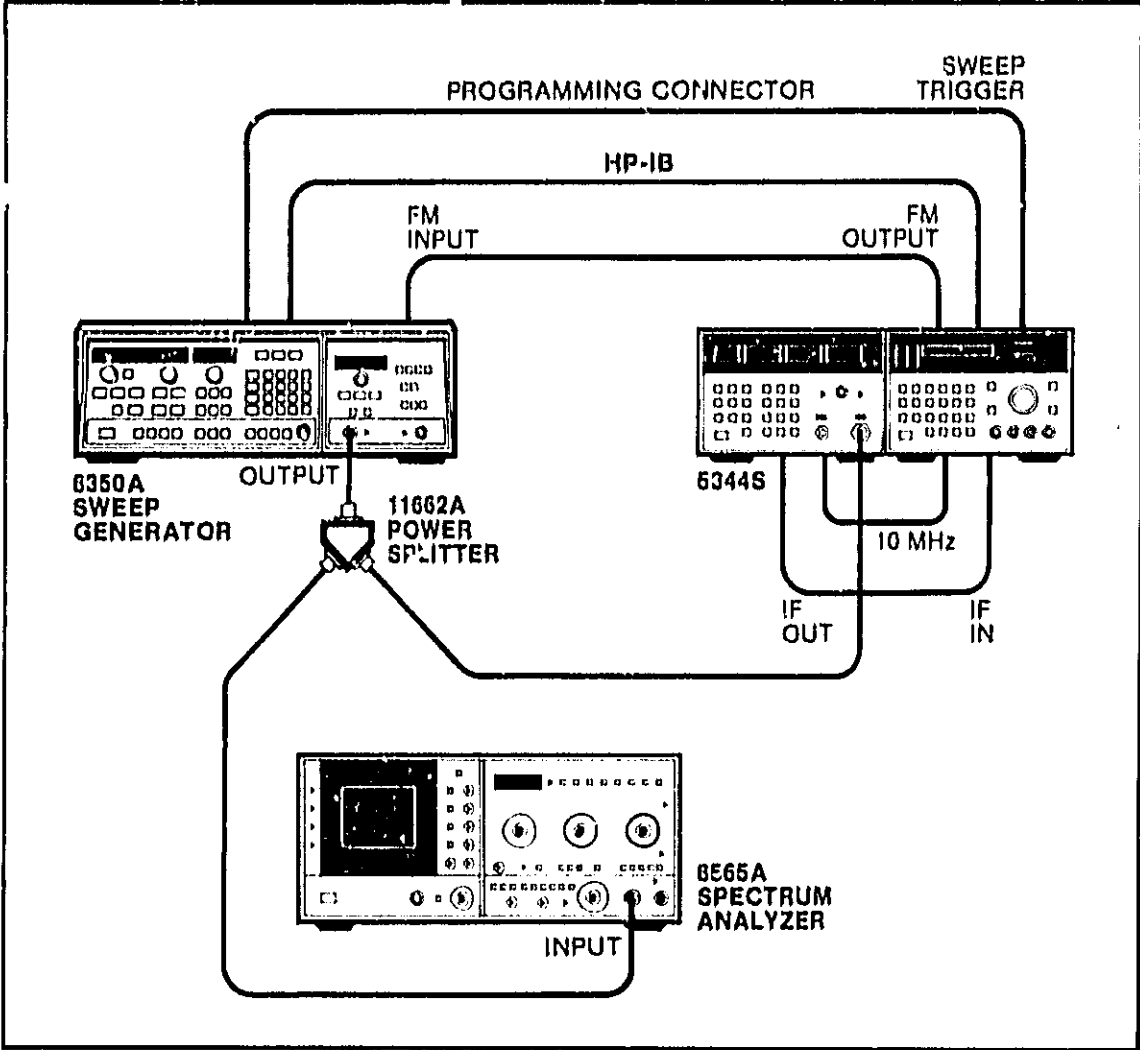

Figure 4-6. Auto Lock Test Setup
- Set up the equipment as shown in *Figure 4-6*.